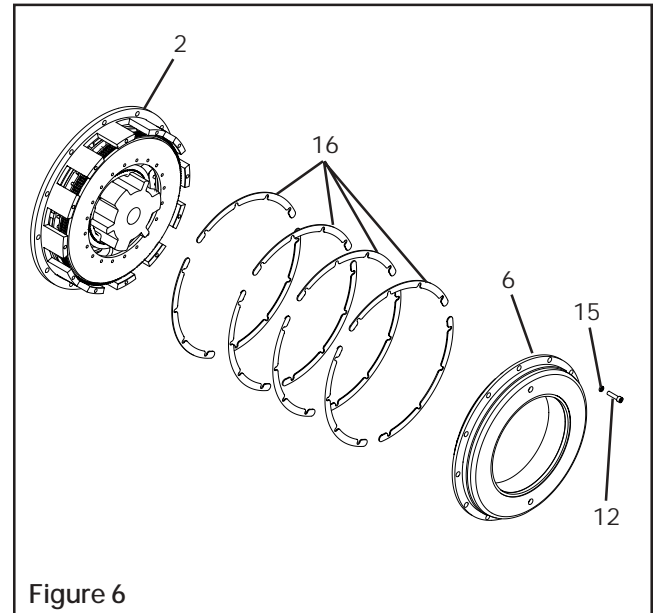

Figure 6
1. Alternately and evenly remove the twelve Socket Head Cap Screws (Item 12) and Lock Washers (Item 15) (See Figure 6).
2. Remove the Piston (Item 6) to free the Shims (Item 16) (See Figure 6).
3. Remove one set of Shims (Item 16) (See Figure 6).
5. Repeat the previous step until the 1.443" [36.652 mm] distance is achieved (See Figures 6 and 7).
6. Apply a drop of Loctite® 242 to the threads of the twelve Socket Head Cap Screws (Item 12) (See Figure 6).
7. Using the twelve Socket Head Cap Screws (Item 12) and Lock Washers (Item 15), secure the Piston (Item 6) to the Housing (Item 2) (See Figure 6).
8. Alternately and evenly tighten the twelve Socket Head Cap Screws (Item 12) to 89 ft-lb [120.67 Nm] torque (See Figure 6).